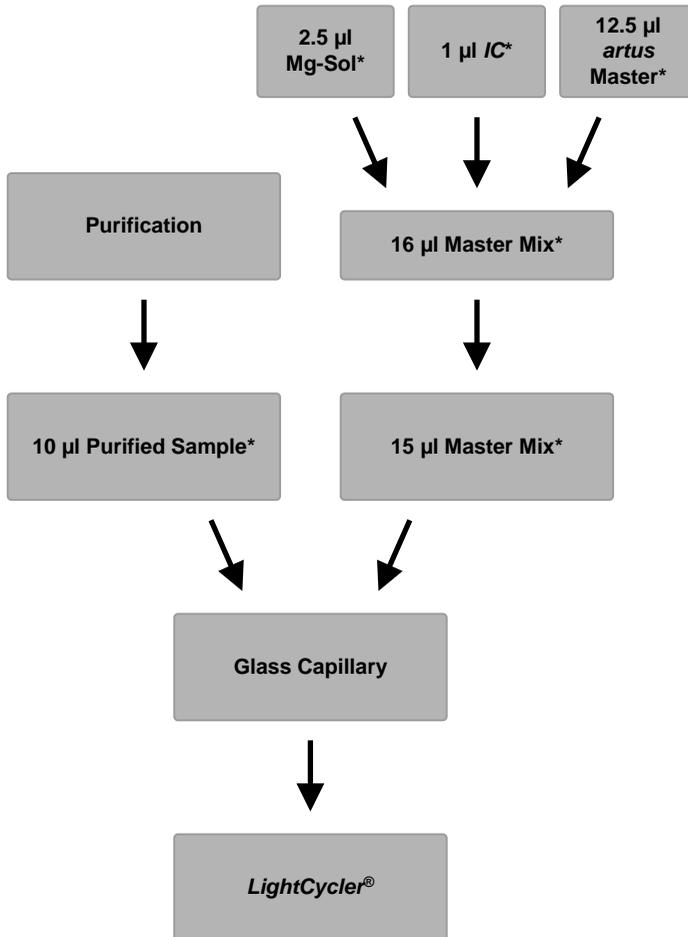

Fig. 2: Schematic workflow for the control of PCR inhibition.
The *Internal Control* can optionally be used **exclusively to check for possible PCR inhibition** (see Fig. 2). For this application, add 1 µl of the *Internal Control* and 2.5 µl *CMV Mg-Sol* per reaction directly to 12.5 µl *CMV LC Master*. For each PCR reaction use 15 µl of the Master Mix produced as described above\* and add 10 µl of the purified sample. If you are preparing a PCR run for several samples, please increase the volume of the *CMV LC Master*, *CMV Mg-Sol* and the *Internal Control* according to the number of samples (see **8.5 Preparing the PCR**).
**Attention:** In order to assure an accurate quantitation, it is highly recommended to supplement the Master Mix used for the *Quantitation Standards* with the according amount of *Internal Control*. For this purpose, add for each *Quantitation Standard (CMV QS 1 – CMV QS 4)* 1 µl of the *Internal Control* and 2.5 µl *CMV Mg-Sol* directly to 12.5 µl *CMV LC Master* (for a schematic overview see Fig. 2). This pipetting scheme is generally applicable for the *CMV Quantitation Standards* and independent from the number of *Quantitation Standards* used.
If you want to use the *Internal Control* **exclusively to check for PCR inhibition**, it must be added directly to the *CMV LC Master*. In this case, please use the following pipetting scheme (for a schematic overview see Fig. 2):